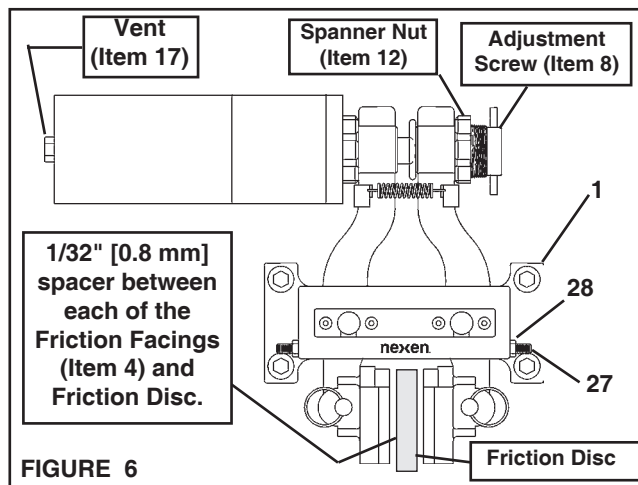

FIGURE 6
3. Loosen the adjustment screw Spanner Nut (Item 12) (See Figure 6).
4. Loosen the Set Screws (Item 27) and the Hex. Nuts (Item 28) on the Main Frame (Item 1) (See Figure 6).
5. Turn the Adjustment Screw (Item 8) out until 1/32" [0.8 mm] spacers can be slid between each of the Friction Facings (Item 4) and the Friction Disc (See Figure 6).